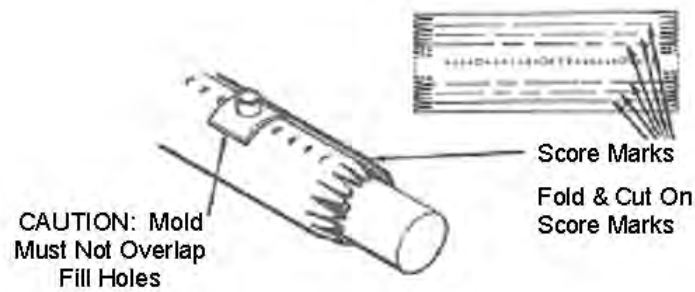

Figure 6
3. On small cables, where mold overlaps mold fill-holes, reduce mold width by folding, then cutting on appropriate score marks. (Figure 6)